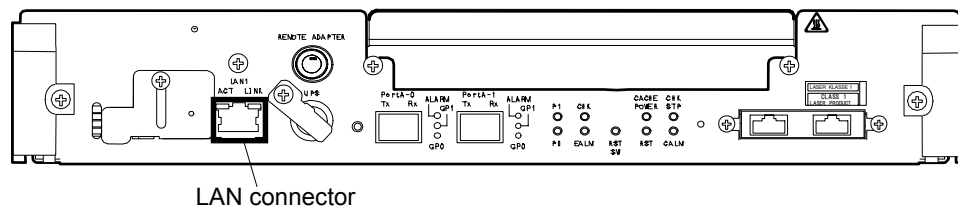

Figure 8.1 LAN Connector Location
- Connect the LAN cable with the LAN connector shown in Figure 8.1.